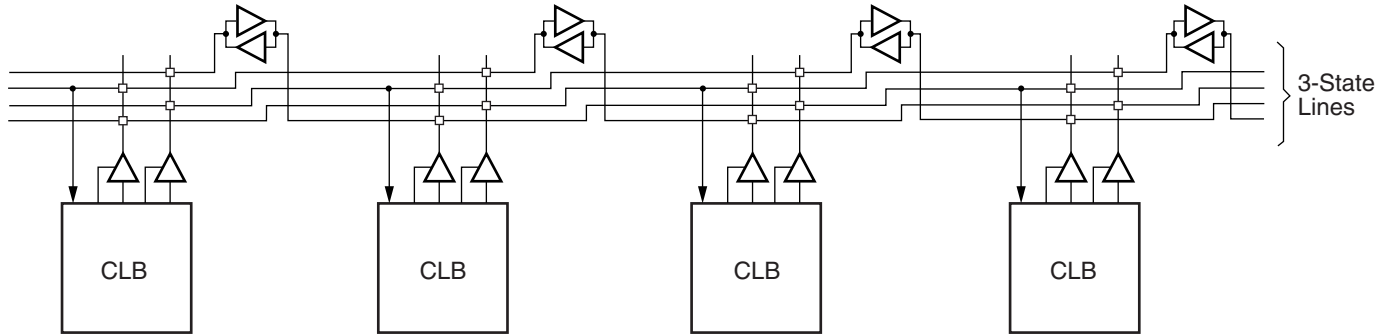

Figure 10: BUFT Connections to Dedicated Horizontal Bus Lines
- Horizontal routing resources are provided for on-chip 3-state busses. Four partitionable bus lines are provided per CLB row, permitting multiple busses within a row, as shown in Figure 10.